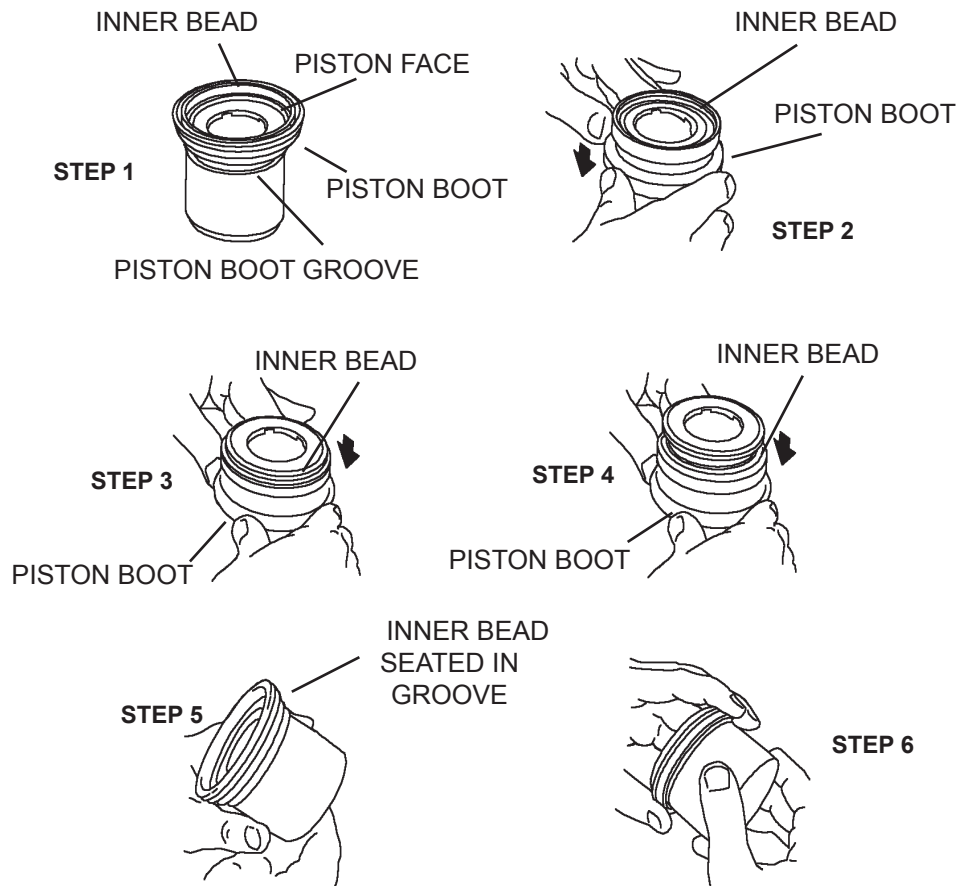

Figure 22. Installing Piston Boot to Piston
1. Position new piston boot on top of new piston (shown in *Figure 22, Step 1*) with boot flange properly oriented. The small dimples on the piston boot flange must be toward the open end of the piston. Carefully pull piston boot down over the top of the piston (shown in *Figure 22, Step 2, 3 and 4*) until inner bead of boot is seated in the piston boot groove (shown in *Figure 22, Step 5*).
2. Return the boot to the collapsed or folded position. Make sure the boot is fully seated in the piston boot groove by grasping the piston boot flange and rotating piston back and forth (shown in *Figure 22, Step 6*).